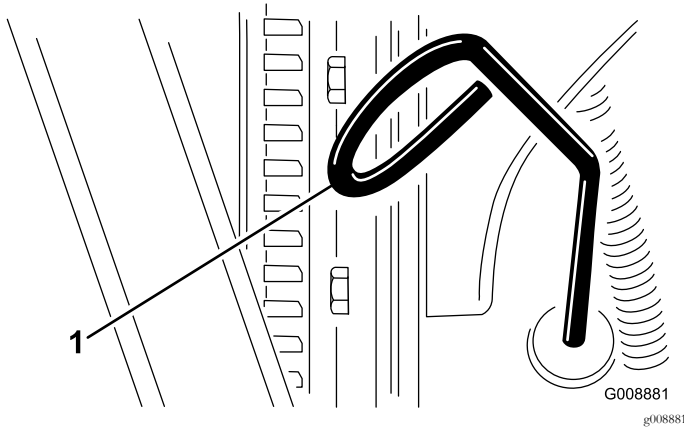

Figure 23
3. Remove the dipstick, wipe it clean, and install it (Figure 23).